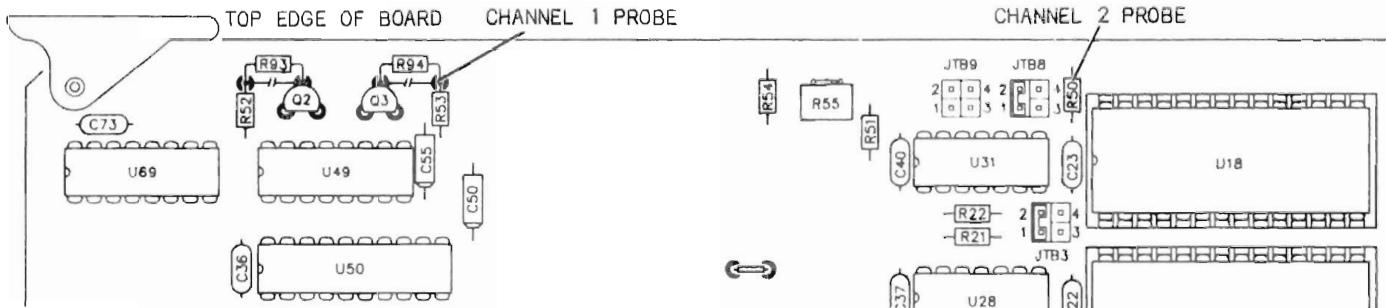

Figure 9-2 Cellular Calibration Test Points
- Connect Channel 1 Probe of Oscilloscope to junction of R6594 and R6553. Connect Channel 2 Probe of Oscilloscope to junction of collector of Q6502 and R6550. (See Figure 9-2).